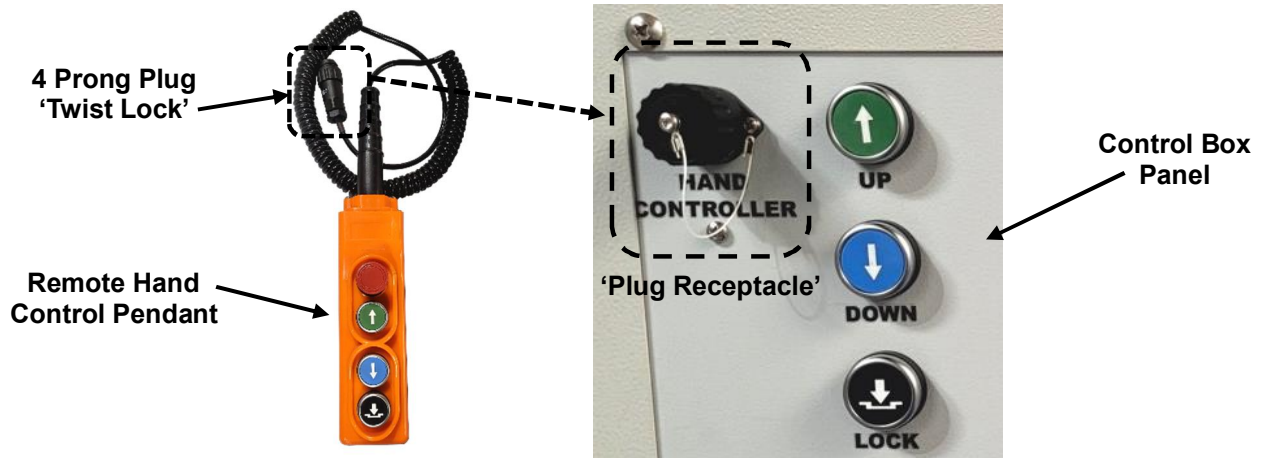

Fig. 2
- 1) Locate the **remote hand control pendant** from crate package and connect the 4 prong twist lock plug end to the threaded Hand Controller plug receptacle on the control box panel. Twist to tighten to secure together. Stow hand control pendant in the utility / tool tray, on the sides of control box, or on the lower sub-platform, utilizing the magnets on the backside of hand pendant. **Fig 2**